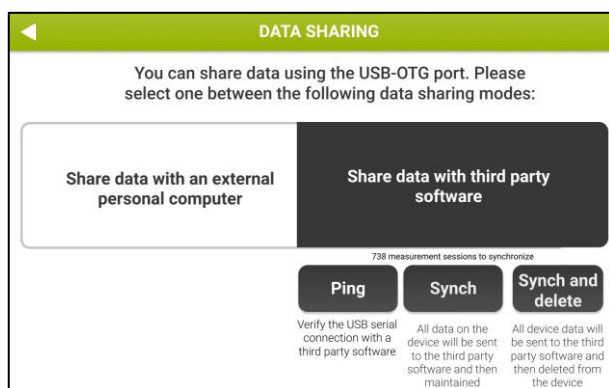

Figure 15 - Options available for sharing data with 3rd party software
3. After reboot, go to the same screen (Admin - Data Sharing - Data Sharing via USB-OTG); three more buttons are now displayed: *Ping*, *Sync* and *Sync and Delete* (Figure 15)